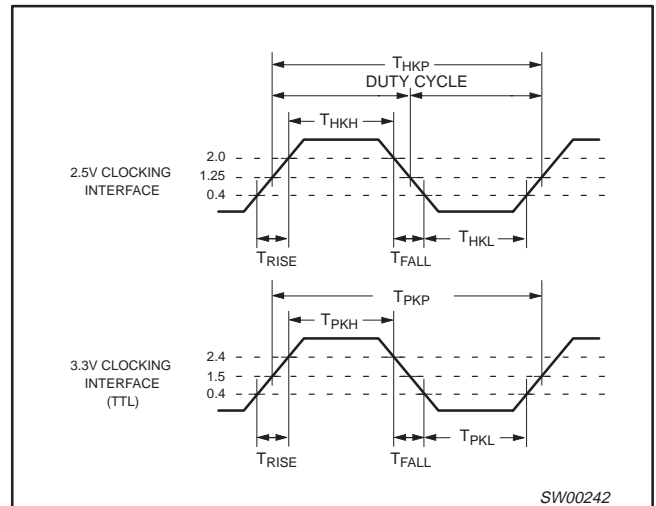

Figure 4. 2.5V/3.3V clock waveforms
- $T_{HKH}$  is measured at 2.0V for 2.5V outputs, 2.4V for 3.3V outputs as shown in Figure 4.
- $T_{HKL}$  is measured at 0.4V for all outputs as shown in Figure 4.